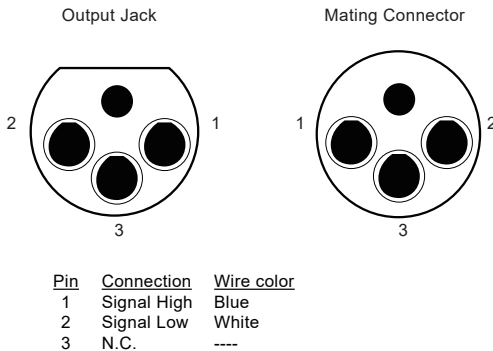

Figure 6-1 Pin-Out for the Output Jack and Mating Connector
Table 6-1 shows the high-voltage output jack's pin-out and mating connector. Determine the conductor length needed to connect the transmitter output to the external signal protection relay and ground control unit assemblies. Use a minimum of 18 AWG conductors rated minimum 600 V, minimum 80°C, and the colors specified in Figure 6-1.
9. Figure 6-1 shows the output connector pin-out.